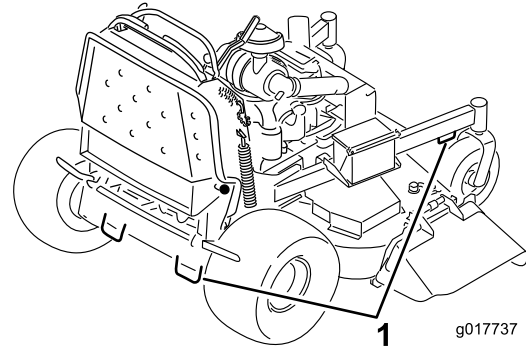

Figure 23
6. Use the metal tie down loops on the machine to securely fasten the machine to the trailer or truck with straps, chains, cable, or ropes (Figure 23).